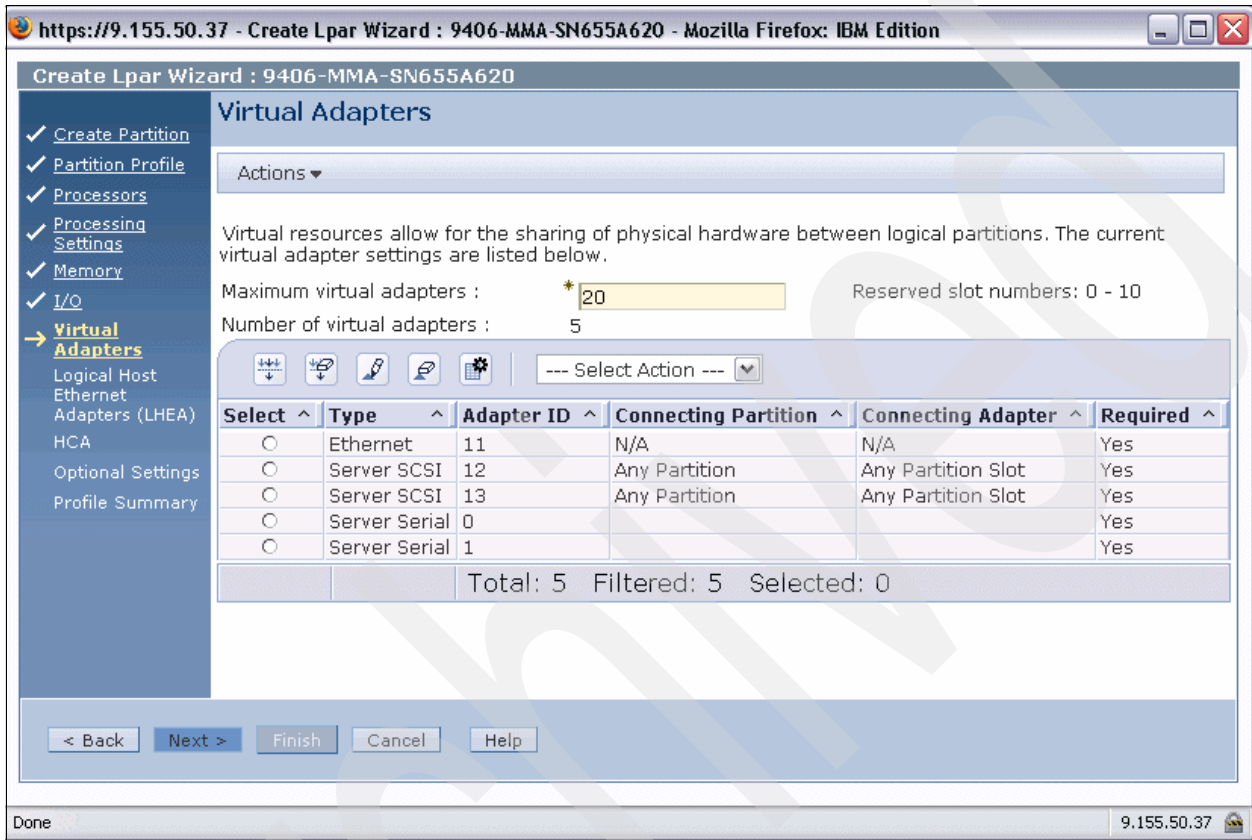

Figure 6-14 Create LPAR Virtual Adapters dialog
12. Now that we have created one virtual SCSI server adapter for VIOS we can use for the virtualized IBM System Storage DS4800 SCSI disk devices. Since we like to have a dedicated virtual SCSI server adapter for VIOS to virtualize the DVD-RAM we repeat step 11 above to create another virtual SCSI adapter. Figure 6-14 shows our virtual adapter configuration with the one Ethernet adapter and the two SCSI server adapters that we just created. Select **Next** to proceed.